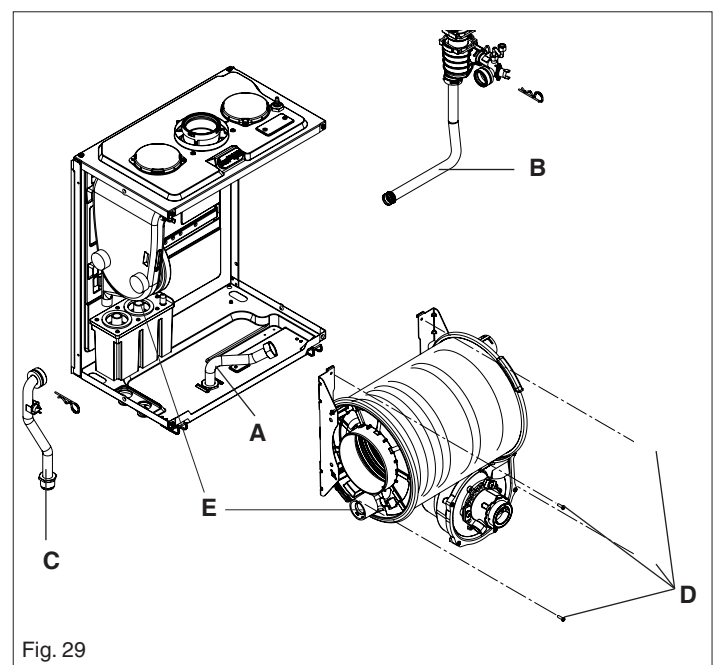

Fig. 29
### 6.16 MAIN HEAT EXCHANGER (fig. 29 & 30)
**Fig. 29:** Slacken the gas pipe (A) at the air box connection and swing/rotate of the fan assembly. Disconnect the flow (B), return (C) and condense connections on the heat exchanger. Locate and remove the 4-screws that secure the heat exchanger to the combustion chamber (D). Move the heat exchanger to the right and disconnect it from the flue collector (E). The heat exchanger can now be lifted up and withdrawn from the appliance.